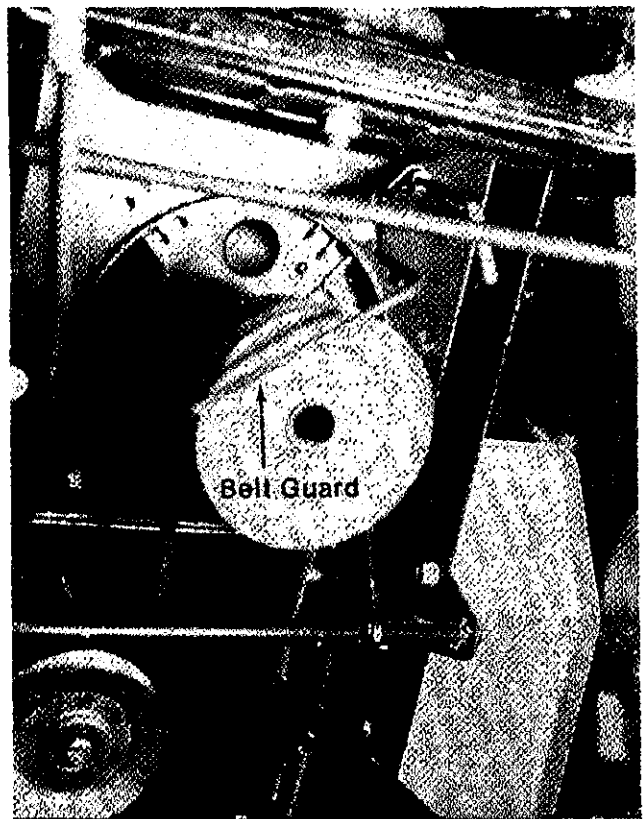

FIGURE 25.
4. Swing the belt guard forward towards the front of the tractor. (See figure 25.)